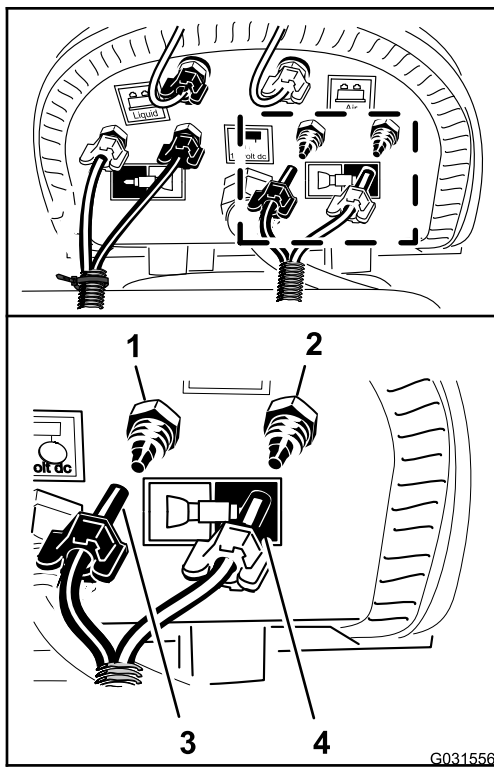

Figure 144
5. Connect the unmarked (no cable tie) tubing by aligning the blue tube for the left-spray section onto the compression fitting for the left-spray section water circuit (Figure 144).
6. Assemble the compression nut for the tube onto the fitting and tighten the nut by hand (Figure 144).
7. Aligning the clear tube for the left spray section onto the compression fitting for the left-spray section air circuit (Figure 144).
8. Assemble the compression nut for the tube onto the fitting and tighten the nut by hand (Figure 144).